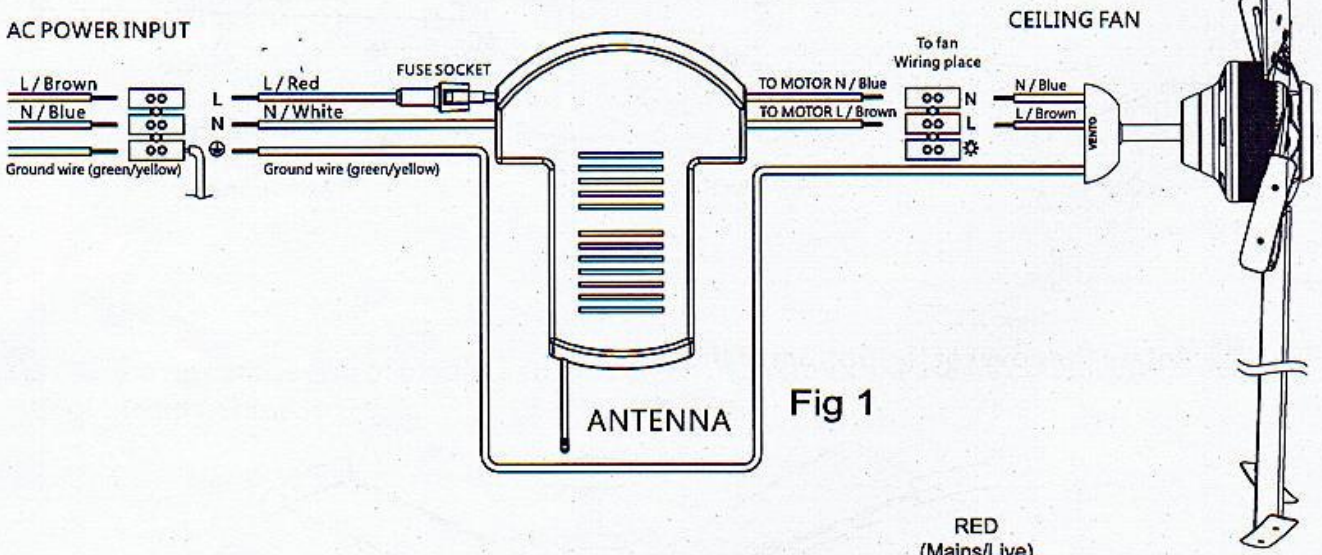

Fig 1
- H** Fix the tips at the end of blades and tighten by two screws, please be careful the direction of the tips, shown in Fig.1.
1. A typical ceiling fan remote control is wired as shown in this wiring diagram. (Fig. 1) Make sure that the wire of brown/blue/orange is connected.